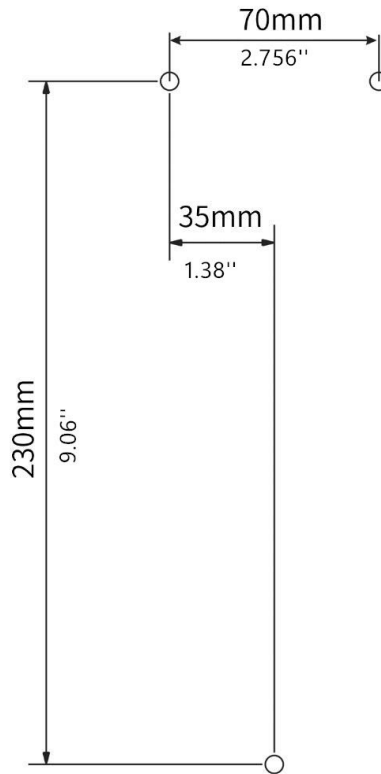

Figure 4.5 Relative Position for Screw Holes on the Wall
- 1) Drill 3 holes with a diameter of **6mm (0.23 inches)** and a depth of at least **50mm (2 inches)** on the wall for the screws with their relative positions shown in **Figure 4.5**.